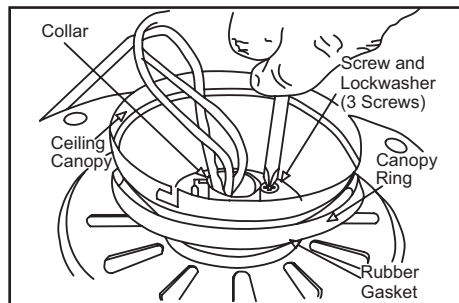

Figure 10
5. Place the rubber gasket over the remaining three screws, route the wires exiting the top of the fan motor through the canopy ring (make sure the slot openings are on top), then proceed to place the ceiling canopy over the collar at the top of the motor (Figure 10).
6. Align the mounting holes with the holes in the motor and fasten, using the three screws and lockwashers removed in step 4 (Figure 10).